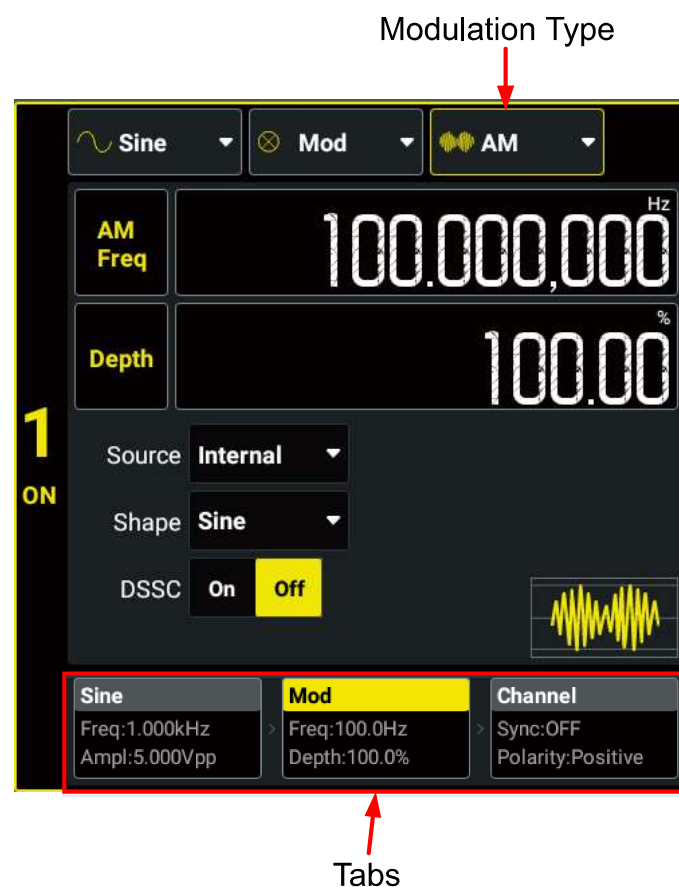

Figure 6.1 Modulation Setting Interface
Interface" (*Figure 6.1*), click or tap the "Modulation Type" drop-down button to select "AM" and set its parameters.
6.2 Frequency Modulation (FM)
In Frequency Modulation (FM), a modulated waveform consists of a carrier waveform and a modulating waveform. The frequency of the carrier waveform is varied by the instantaneous voltage of the modulating waveform. In the "Modulation Setting Interface" (*Figure 6.1*), click or tap the "Modulation Type" drop-down button to select "FM" and set its parameters.
6.3 Phase Modulation (PM)
In Phase Modulation (PM), a modulated waveform consists of a carrier waveform and a modulating waveform. The phase of the carrier waveform is varied by the instantaneous voltage of the modulating waveform. In the "Modulation Setting Interface" (Figure 6.1), click or tap the "Modulation Type" drop-down button to select "PM" and set its parameters.
With Amplitude Shift Keying (ASK), you can configure the instrument to "shift" its output amplitude between two preset values (called the "carrier amplitude" and the "modulation amplitude"). In the "Modulation Setting Interface" (*Figure 6.1*), click or tap the "Modulation Type" drop-down button to select "ASK" and set its parameters.